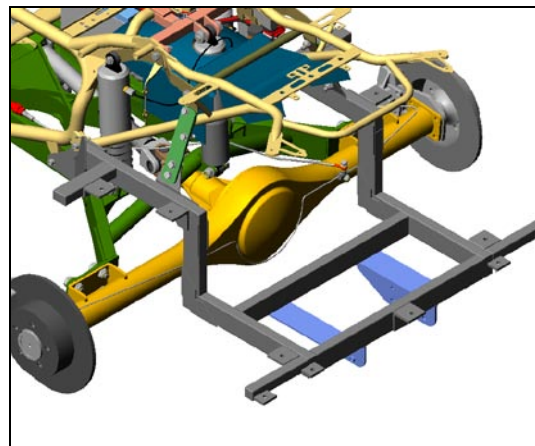
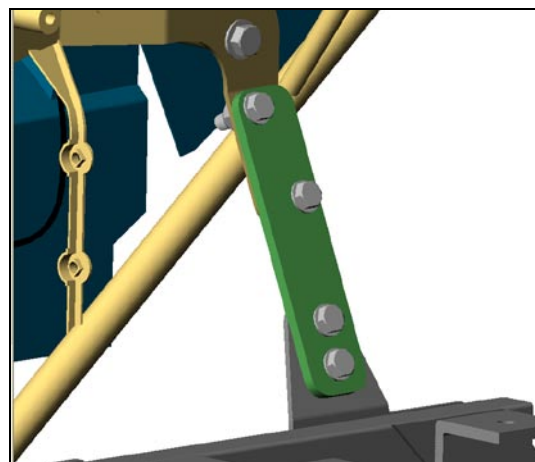

Figure 41
Figure 43
- a. Position and install body frame with left and right Hanger Mounts as shown. Figure 41 thru Figure 43.
- c. Use supplied hardware listed below for left and right Hanger Mounts. Figure 43